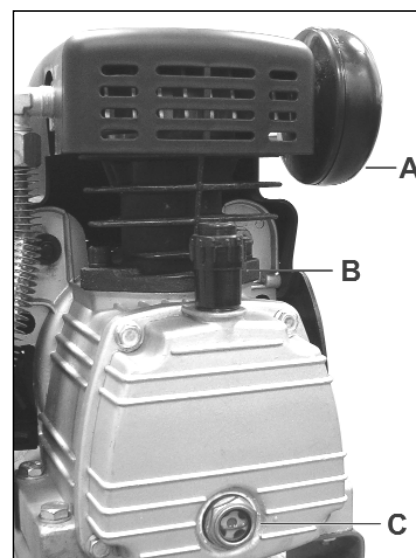

fig 2
- 3.6 Before using the compressor check the oil level by referring to the oil sight glass (fig 2.C). If the oil level is not up to the red centre mark it should be further topped up. Screw the filler/breather cap into the aperture as shown in fig 2.B.
Remove the oil filler/breather plug (see fig 2.B) then unscrew oil sight glass (fig 2.C) and drain the oil into a container.